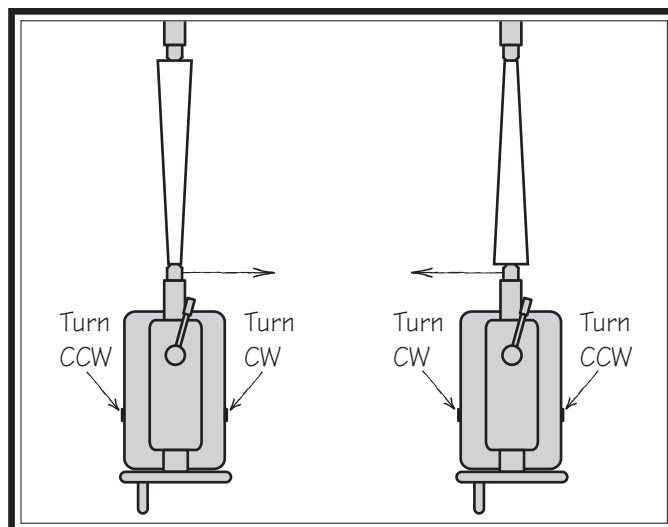

Figure 29. Set screw adjustment in relation to tailstock movement for desired taper.
2. Loosen one offset set screw, then tighten the other to move the tailstock top casting in the desired direction (see the illustration in **Figure 29**).